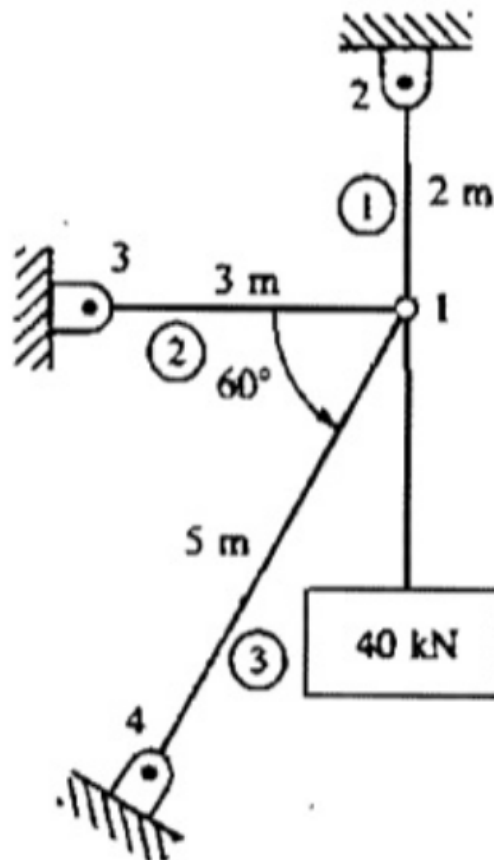

Figure 1
- (c). For the plane trusses shown in **Figure 1**, using finite element method determine the horizontal and vertical displacements of node 1. All elements have $E = 210 \text{ GPa}$ and $A = 4.0 \times 10^{-4} \text{ m}^2$.